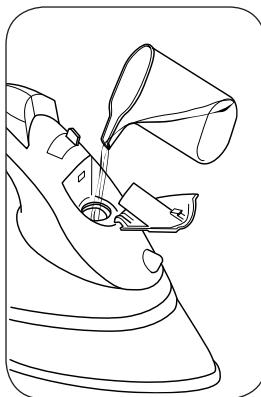

Fig 3
Open the door (A) by pushing it upwards and, holding the iron horizontally, fill the water tank up to the maximum level using the measuring cup (K) provided (Fig. 3). Close the cover (A) again. If your tap water is very hard, use natural mineral water; this helps the iron to last longer. Do not use distilled water.
Fill up the water tank with 100 ml water using the water measure provided (Fig 3).